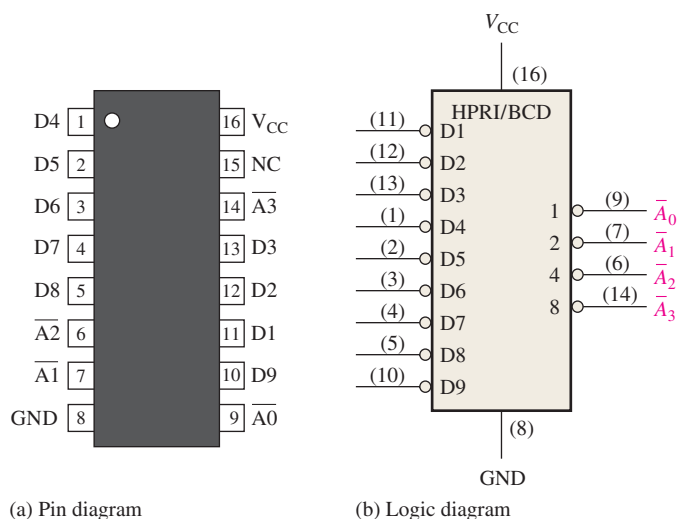

FIGURE 6–38 The 74HC147 decimal-to-BCD encoder (HPRI means highest value input has priority).
Fixed-Function Device The 74HC147 is a priority encoder with active-LOW inputs (0) for decimal digits 1 through 9 and active-LOW BCD outputs as indicated in the logic symbol in Figure 6–38. A BCD zero output is represented when none of the inputs is active. The device pin numbers are in parentheses.
Programmable Logic Device (PLD) The logic of the decimal-to-BCD encoder shown in Figure 6–38 can be described in VHDL for implementation in a PLD. The data flow approach is used in this case.